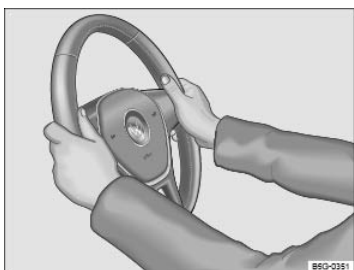

Fig. 73 Steering wheel: 9 o'clock and 3 o'clock positions.
- Adjust the steering wheel so that it can be held with hands at the 9 o'clock and 3 o'clock positions on the outside of the steering wheel rim and with the arms slightly bent at the elbow ⇒ Fig. 73.
- Always hold the steering wheel on the outside of the steering wheel rim with your hands at the 9 o'clock and 3 o'clock positions ⇒ Fig. 73 to help reduce